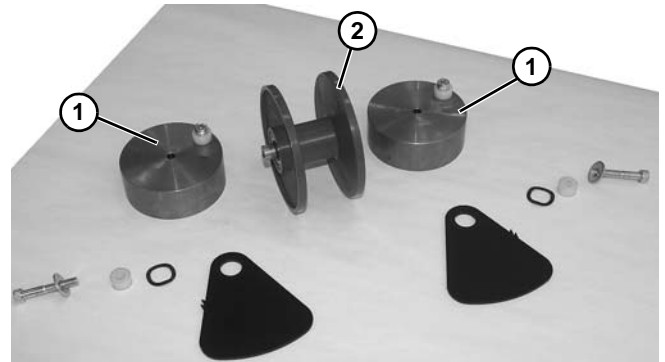

Figure 153
9. Remove two weights (Figure 153, item 1) from each side of pulley (Figure 153, item 2).